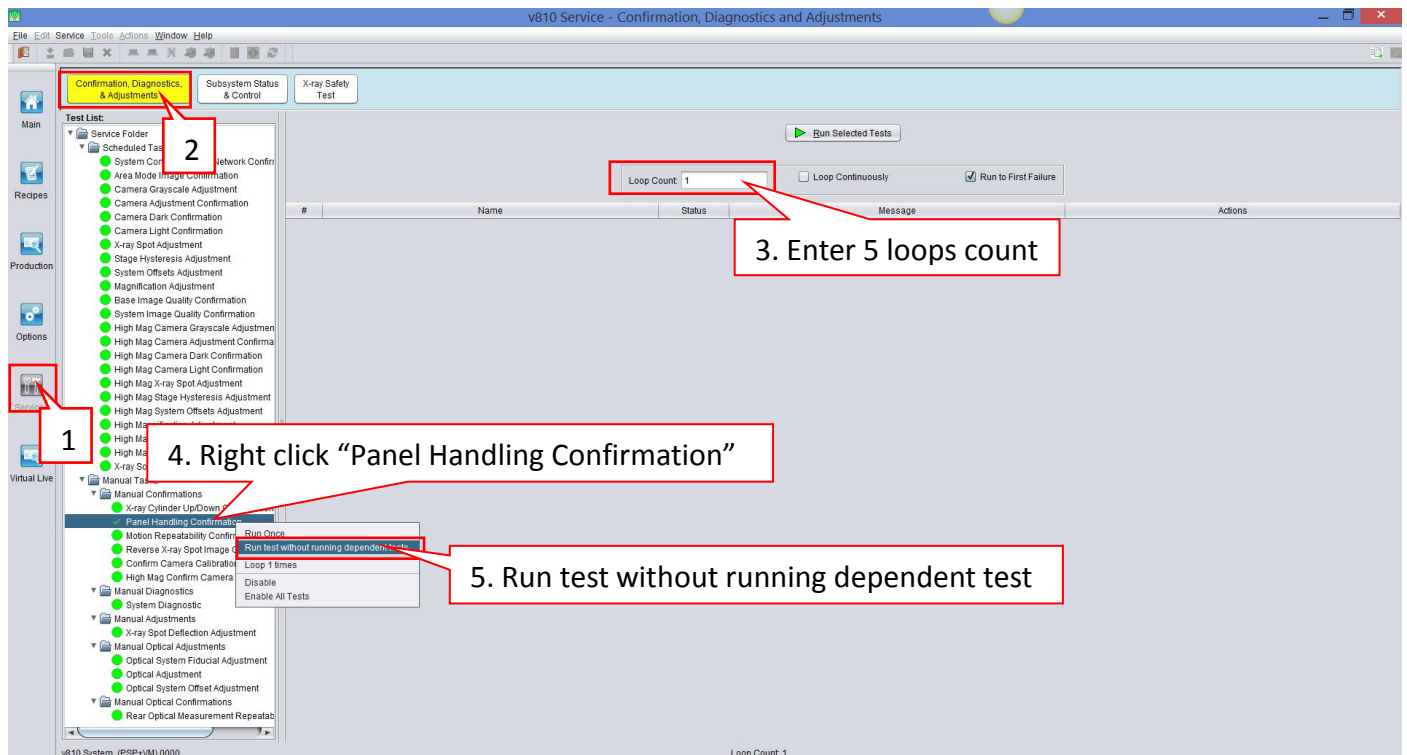

Figure 16 Panel Handling Confirmation
14. Go to services > Confirmation, Diagnostics & Adjustment > Run “Panel Handling Confirmation” for 5 loops as shown in Figure 16